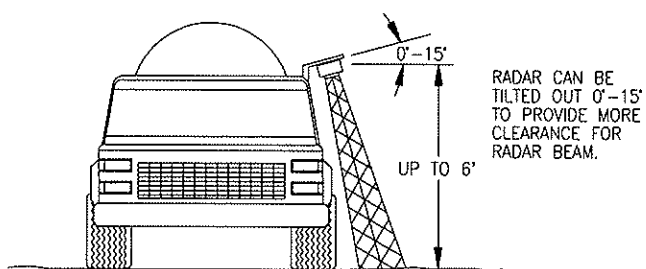

FIGURE 2
- b) The radar lens must be parallel to the ground from front to back. Radar can be tilted out 0-15 degrees to provide more clearance and miss obstructions. See Figure 2.